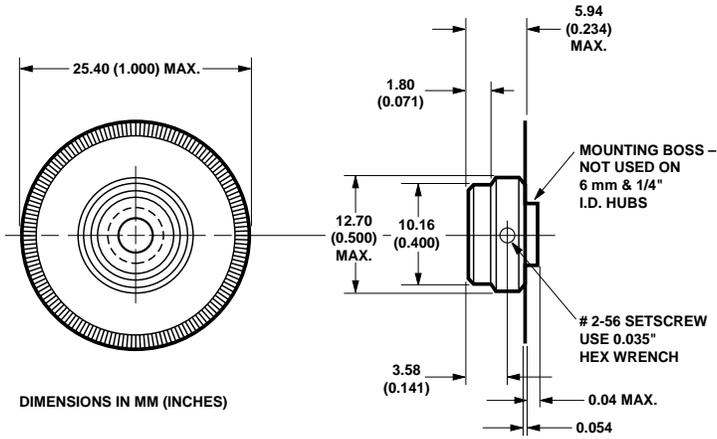

**Figure 2. Alignment Tool is Used to Set Height of Codewheel.**
- (a) Place the correct gap setting tool (per Ordering Information Table) on motor base, flush up against the motor shaft as shown in Figure 2. The shim has two different size steps. Choose the one that most closely matches the width of the codewheel boss. The